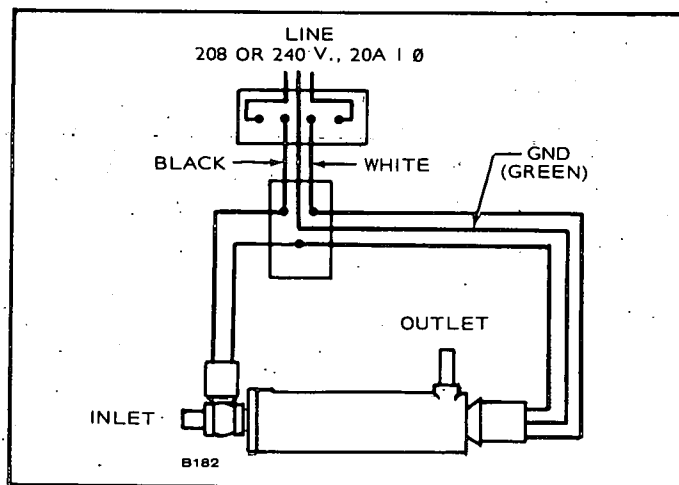

FIGURE 16. ENGINE HEATER
**Engine Heater:** The function of this optional heater is to keep the engine warm enough to assure starting under adverse weather conditions. Connect the heater to a source of power that will be ON during the time the engine is not running. Be sure the voltage rating is correct for the heater element rating. (Figure 16).